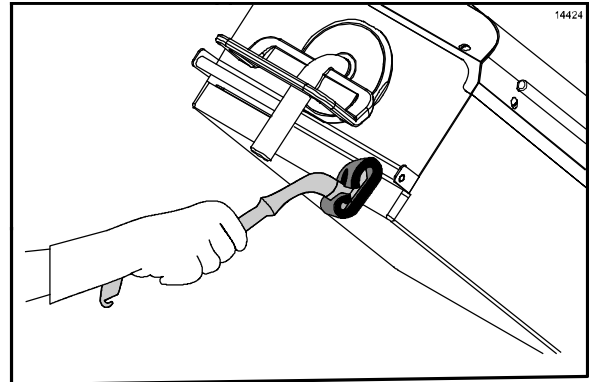

Figure 89
15. Apply **McD Hi-Temp Grill Cleaner (HTGC)** to the front side of the platens, starting from the right platen to the left platen. (See Figure 89.)